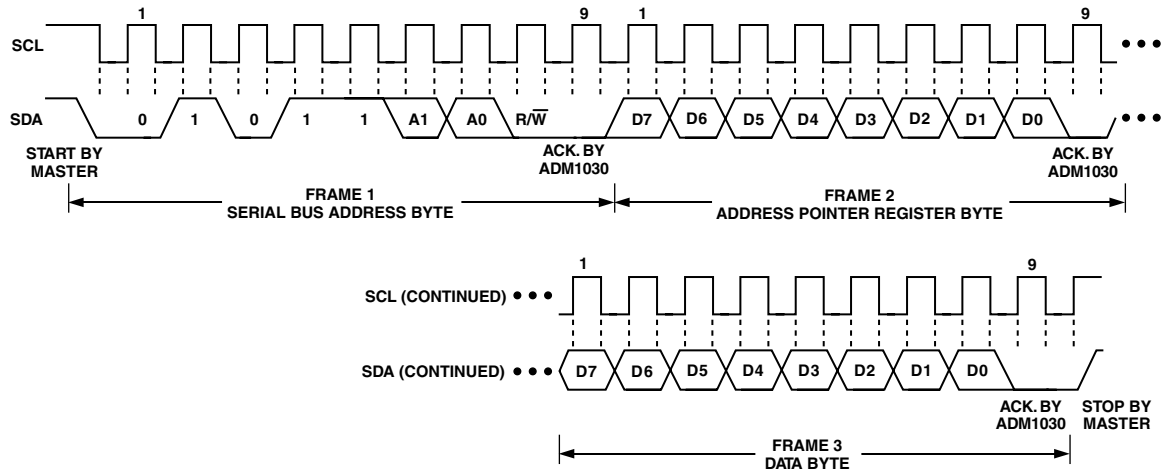

Figure 2a. Writing a Register Address to the Address Pointer Register, then Writing Data to the Selected Register
This is illustrated in Figure 2a. The device address is sent over the bus followed by R/\overline{W} set to 0. This is followed by two data bytes. The first data byte is the address of the internal data register to be written to, which is stored in the Address Pointer Register. The second data byte is the data to be written to the internal data register.
2. In Figures 2a to 2c, the serial bus address is shown as the default value 01011(A1)(A0), where A1 and A0 are set by the three-state ADD pin.